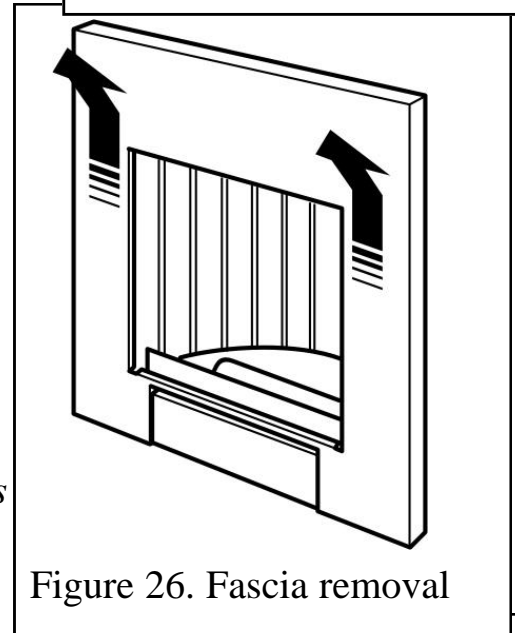

Figure 26. Fascia removal
3. The fascia is held in place by four retaining plates at the back of the fascia. These slot into four retaining brackets on the hotbox. To remove the fascia, hold the sides of the fascia and lift upward and forward. The fascia should lift clear of the hotbox. Do not lift too high before pulling clear as the bottom of the fascia will foul the control knob (See figure 26).